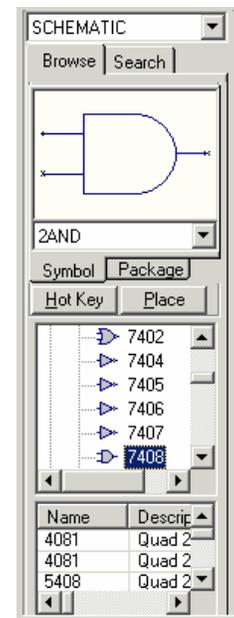

Fig. 4.6
- Another method of loading components is by using the component browser, which can be launched from View->Schematic->Browser (Refer Fig. 4.6). The required components can be obtained either by using the Browse option in the window or by Search for the element in the quick menu. Once the element is found, it can be placed in the workspace using the Place button in the bin. Hotkeys can also be assigned to element names by which quick launch of components is possible.